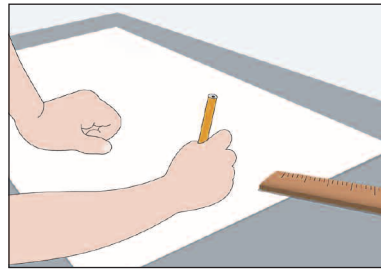

Fig. 2
- B. Plan: Draw your room on the graph paper (fig. 2). Remember to draw in any fixed furniture/cupboards etc. and the location of your thermostat/power supply. The heating mat should not be installed beneath items fixed to the floor, such as cupboards, bathtubs, toilets etc.